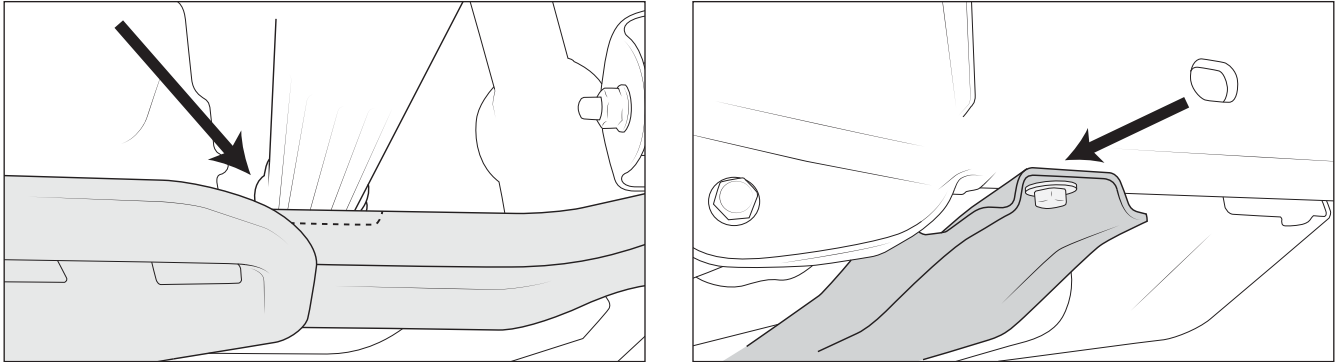

Figure 34
- A. Hold the skid plate in position and mark where the skid plate will need to be trimmed. Trim the skid plate as shown and paint for corrosion protection (Fig. 34).
- B. Install the skid plate using the 4 supplied spacers, 2 at each side (Fig. 34).